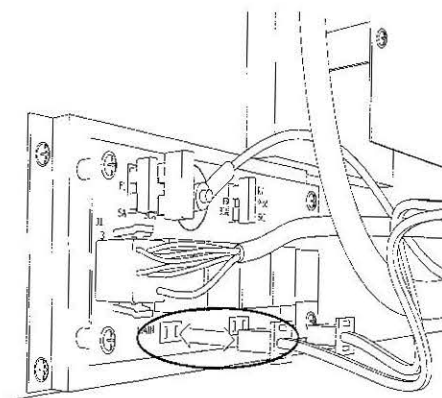

Fig. 08-13 - Unplug the Wiring Harness before manually cranking the slide-out
1. Prior to manually cranking the slide-out, unplug the wire harness located at the slide out relay control next to the 12 Volt distribution panel in the forward compartment on the co-pilot side of the coach (see Figs. 08-13).